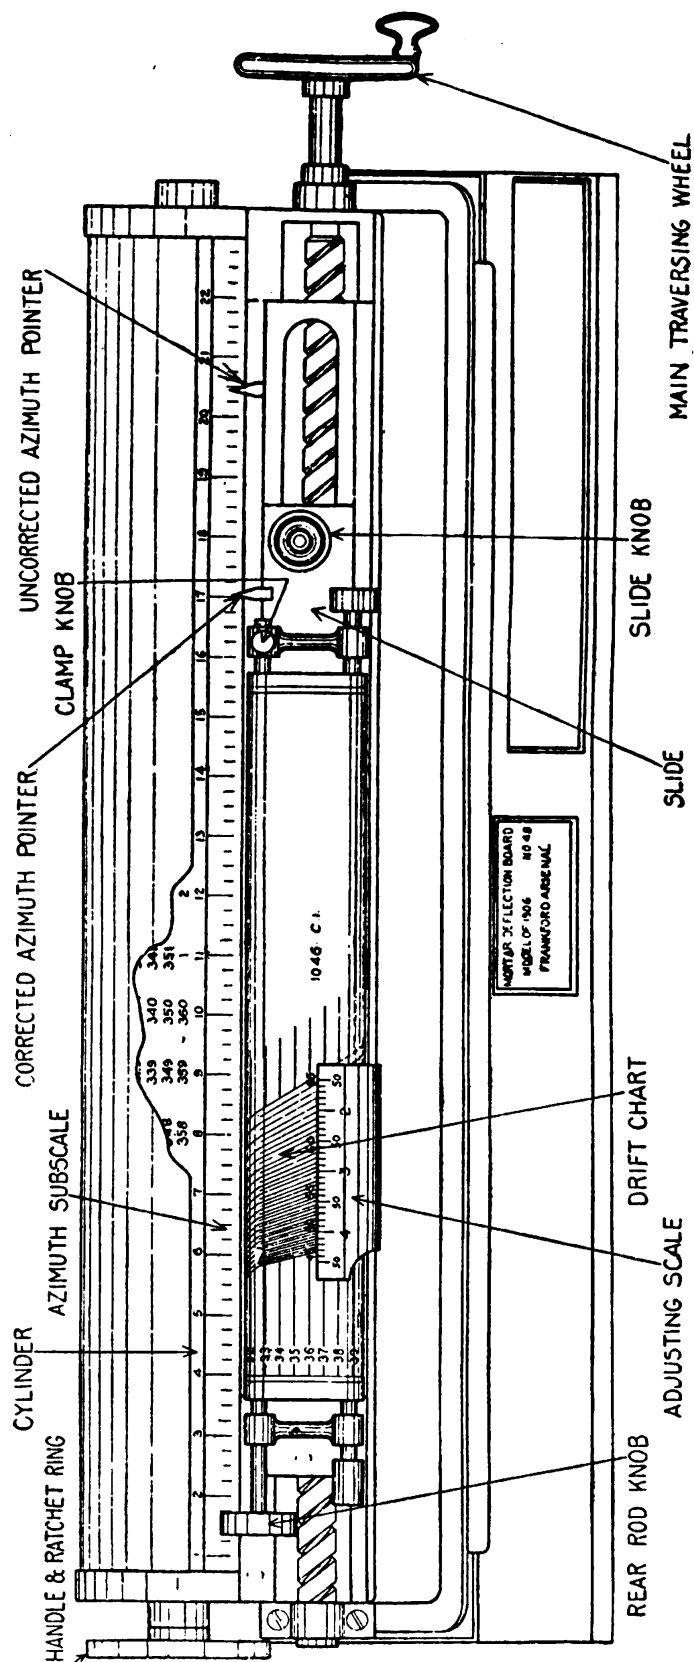

FIGURE 48.—Mortar deflection board M1908.
37. Mortar deflection board M1906.—*Q.* Point out and state the purpose of each of the parts shown in figure 48. *A.* (See fig. 48.)